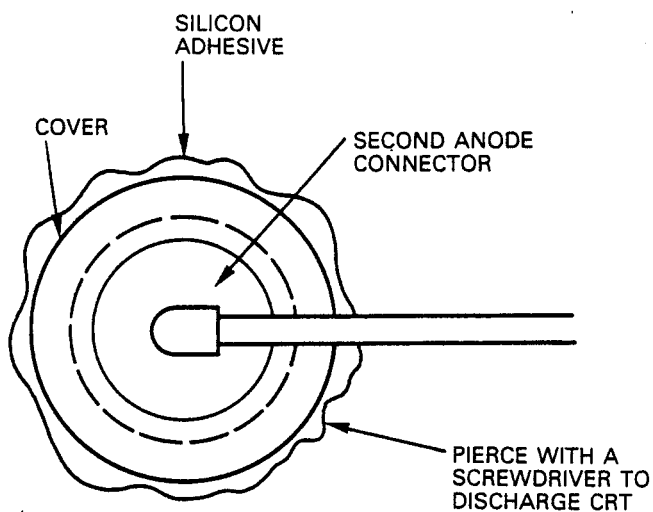

Fig. 15-2
2. Carefully pierce the silicon adhesive at the outer edge of the second anode cover (Fig. 15-2) and discharge the picture tube to the CRT Shield.